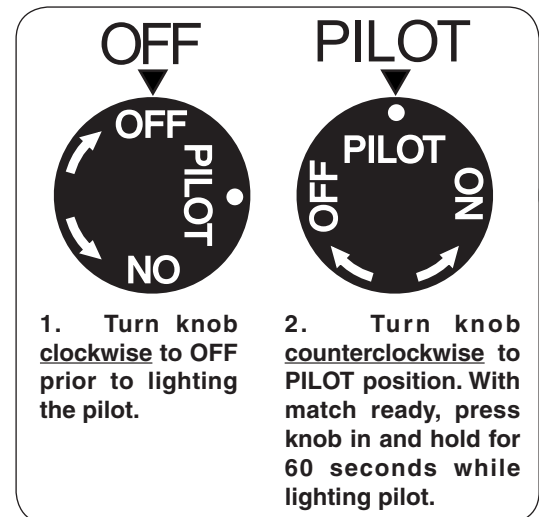

Fig. 23-1 Control knob detail (OFF, PILOT)
1. Locate the valve on the side of the unit. Push in the gas control knob slightly and turn clockwise to **OFF** (Fig. 23-1).
2. Turn the control knob counterclockwise to **PILOT** (Fig. 23-1). Push the control knob **firmly and fully** in and hold. Hold a long fireplace match or lighter near the thermocouple to light the pilot. Continue to hold the control knob in for approximately 60 seconds after the pilot is lit, then release the knob. The pilot will remain lit.